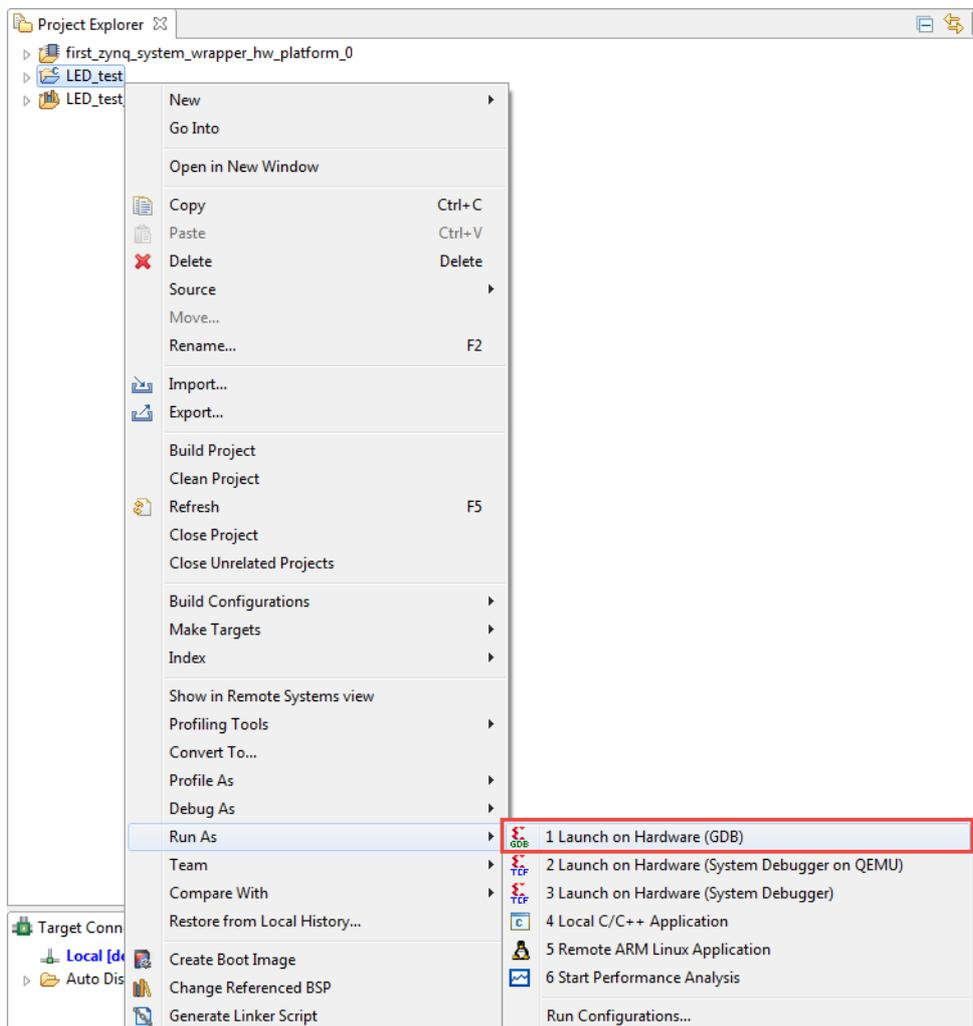

Figure 1.37: Launch Application onto the Zynq Development Board
- (k) Select the project **LED_test** in *Project Explorer*. Right-click and select **Run As > Launch on Hardware (GDB)** as in Figure 1.37.